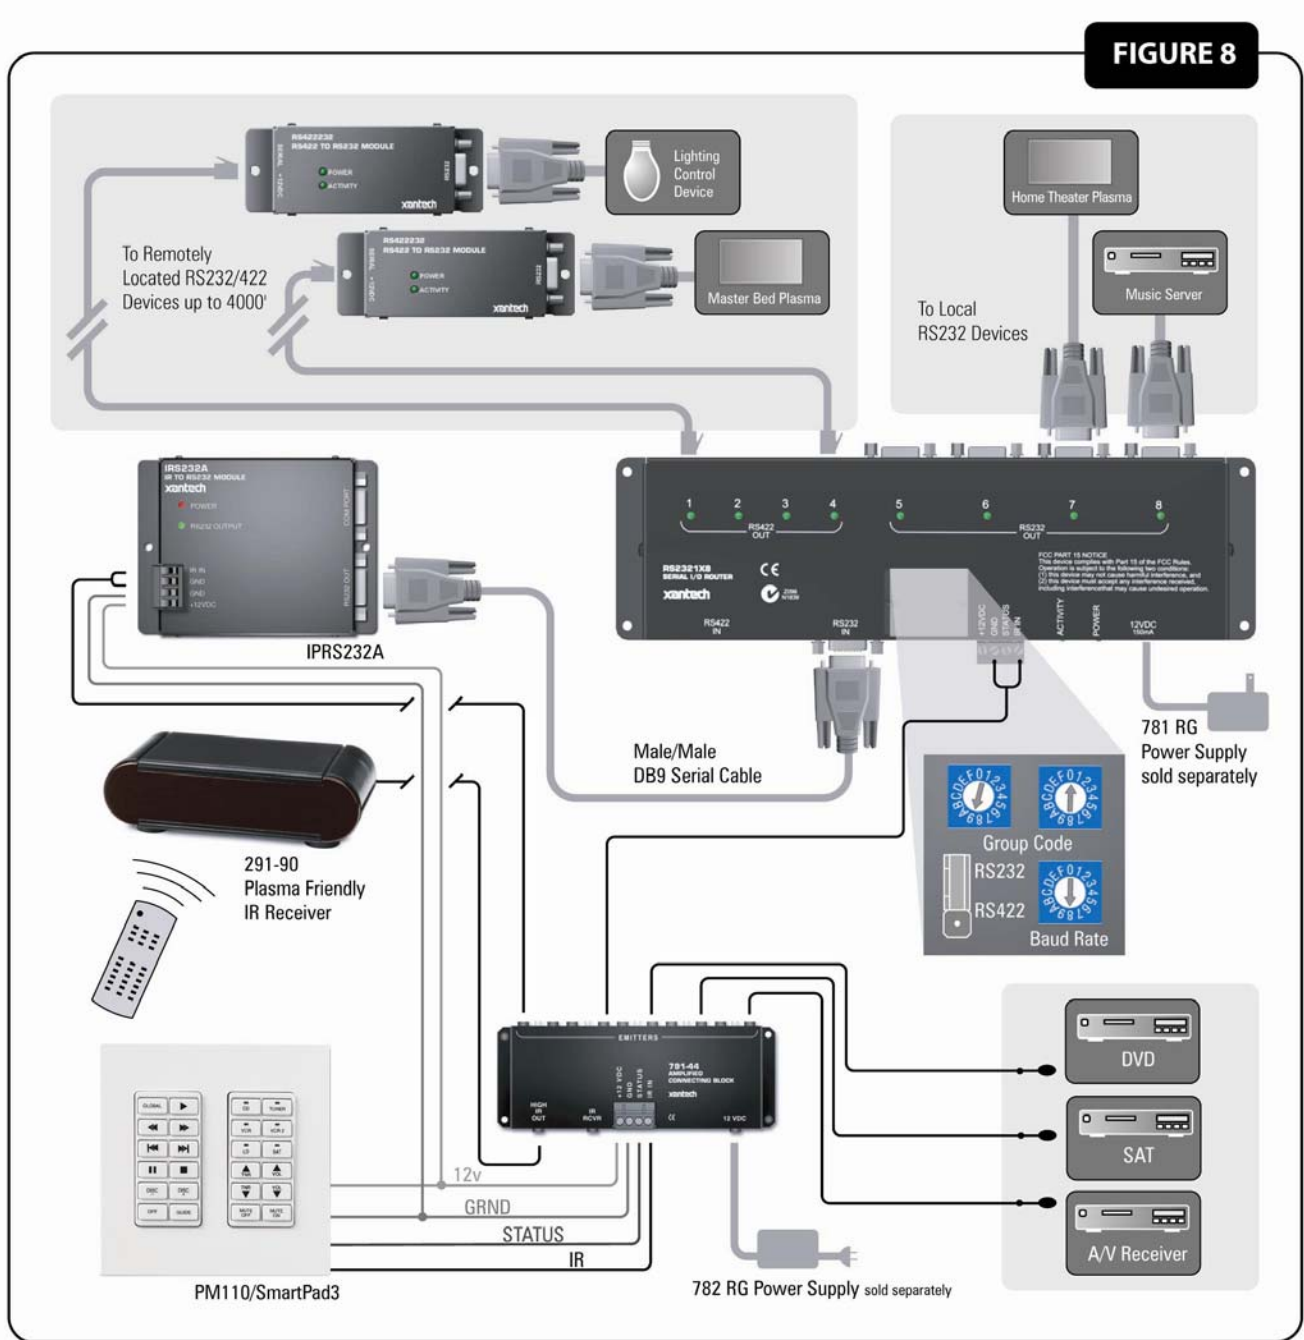

Figure 8: RS2321X8 Wired in IR 'Standalone' Application
2. Connect all units as shown in **Figure 8** below.
- a. Change the CODE GROUP to **90** as shown in **Figure 8** below. (Overlay should be selected to **C**)